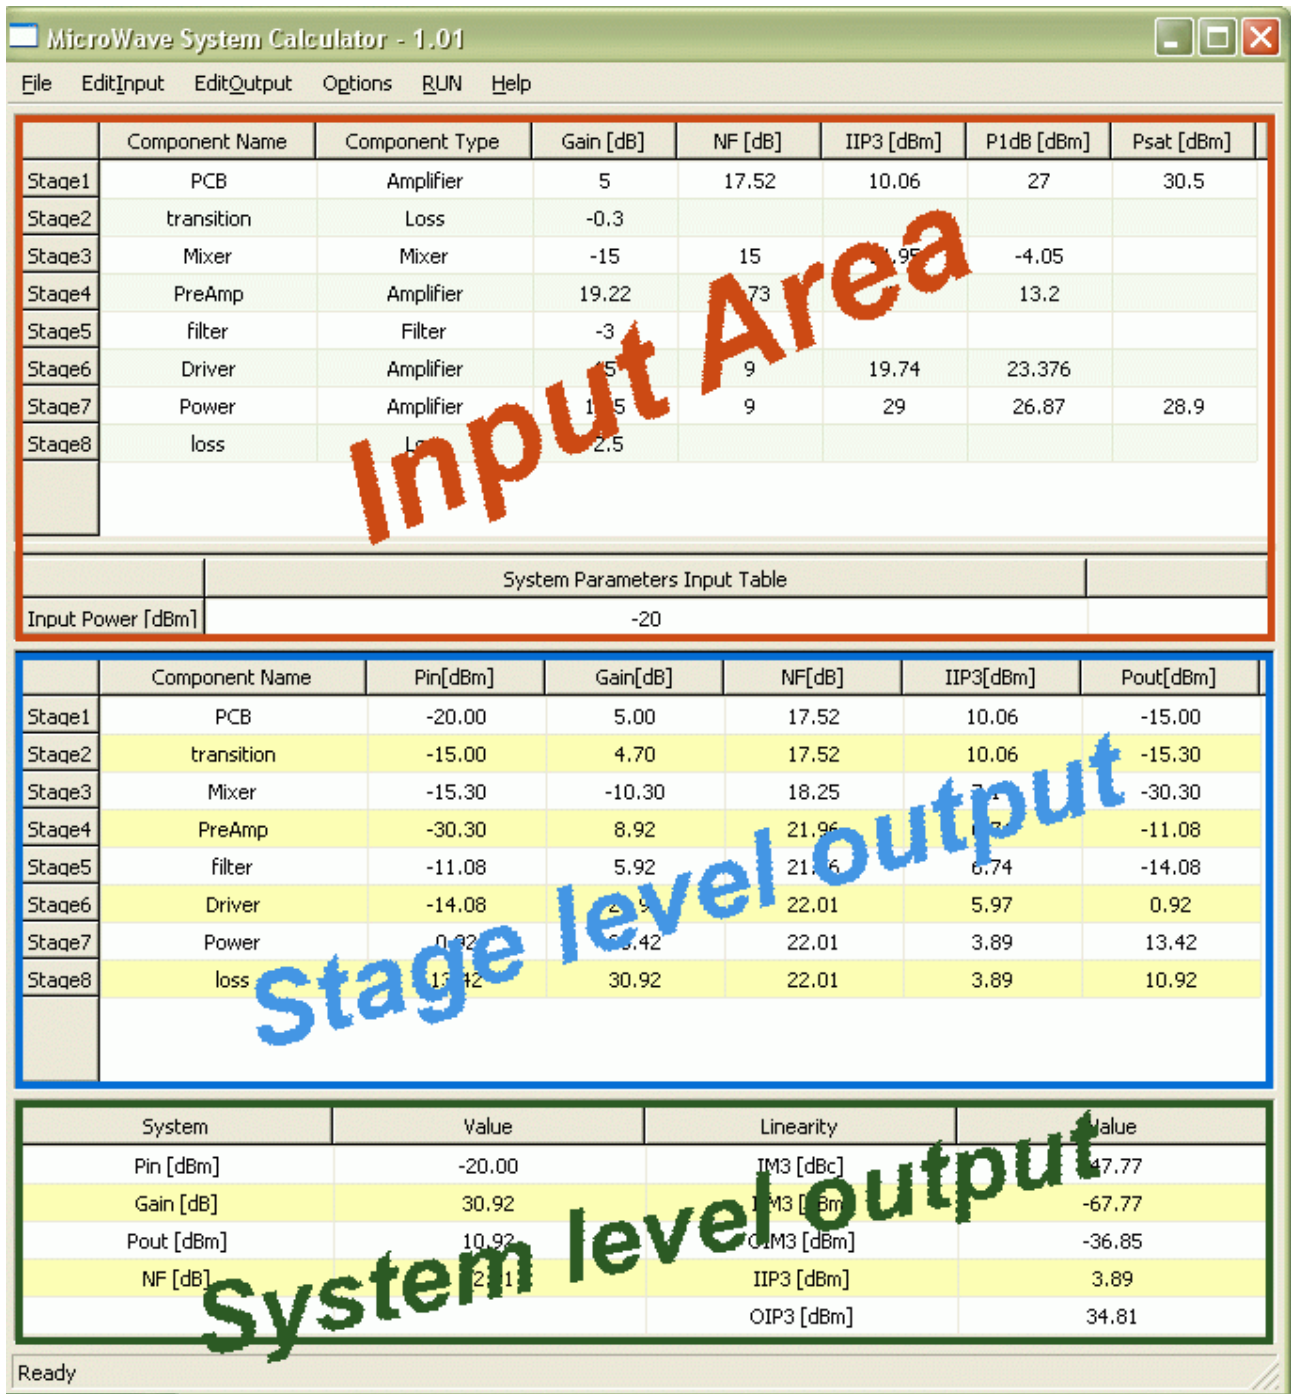

Figure 1: Mystic main window
On the higher part of the window (red box in Figure 1) you can edit the input file which describes the component chain constituting your system. In this file you can define every component you want to use filling in the required system parameters (for more details please refer to par. 1.3).
- output table at stage level (see blue box in Figure 1)
- output table at system level (see green box in Figure 1)